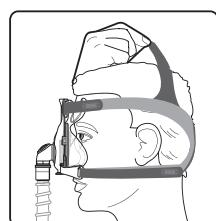

Figure 6
4. Adjust the top strap (Figure 6) so the upper straps rest above the ears. The headgear should lay flat against the base of the head.